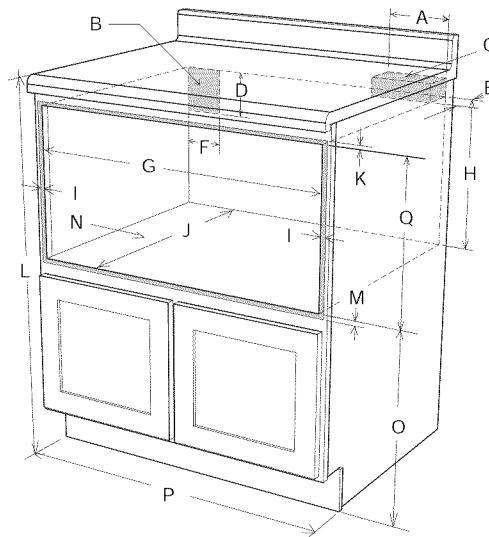
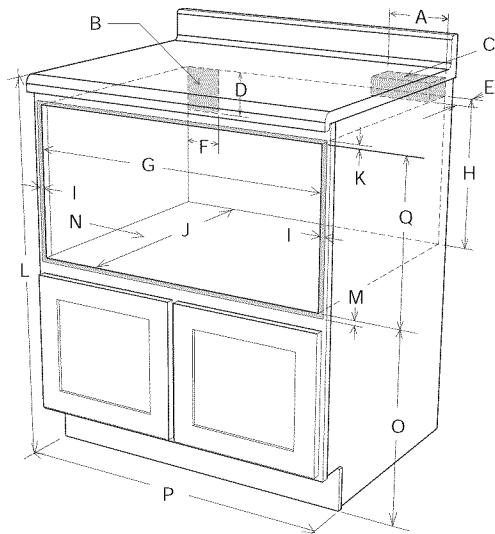
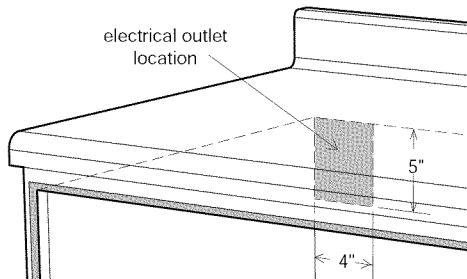

Figure 2
Figure 4
Figure 8
For SAFETY CONSIDERATIONS do not install the drawer in any combustible cabinetry, which is not in accord with the stated clearances and dimensions on pages 3, 4 and 5. See **Figure 2** (for 24") or **Figures 4** and **5** (for 30").
- Dimensions that are shown in **Figures 2, 4 and 5** must be used. Given dimensions provide minimum clearance. Locate the electrical outlet in the shaded area in the upper left-hand corner of the cutout. See **Figure 8**.
To reduce the risk of tipping the drawer, the anti-tip block must be properly installed 14 $\frac{3}{4}$ " above the floor cutout. The 6" anti-tip block must be provided by the installer. See **Figures 2** and **6** for (24") or **Figures 4, 5, and 6** (for 30"). The anti-tip block prevents serious injury that might result from spilled hot liquids.